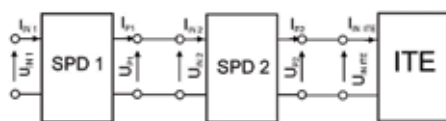

Figure 3: Coordination of two SPDs.
a) SPD (j, k, l), see Figure 3